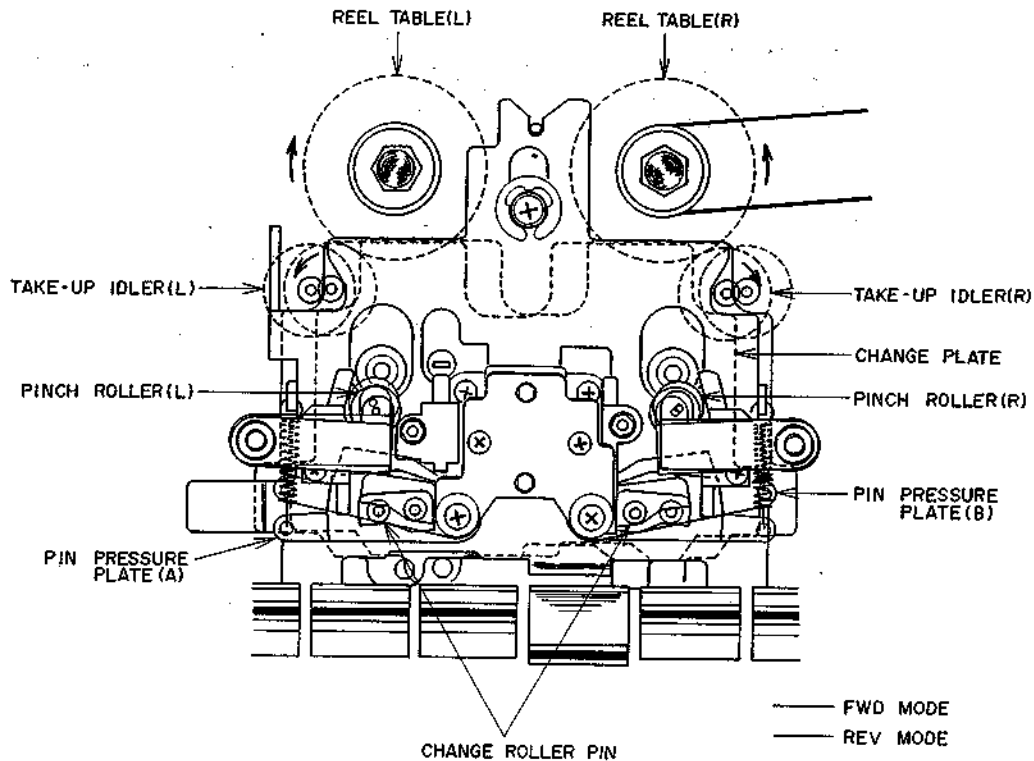

Fig. 5
In the FWD Mode the Reverse Adjust Lever is on the left and, therefore, Change Plate on Fig. 5 is also on the left. Since the Take-up Idler(R) is in contact with the reel table(R), the rotation from the flywheel is transmitted to the reel table(R) and the tape is taken-up in the forward direction. The Change Roller Pin fixed on the Change Plate is also in the left hand position causing Pin Pressure Plate (A) and (B) to be as in Figure 5. Since the Pin Pressure Plate (B) is in a position unaffected by the Change Roller Pin, Pinch Roller(R) comes in contact with the capstan and the tape is sent in the FWD direction. The Pin Pressure Plate(A) is pressed down by the Change Roller Pin and, therefore, Pinch Roller(L) is separated from the capstan.